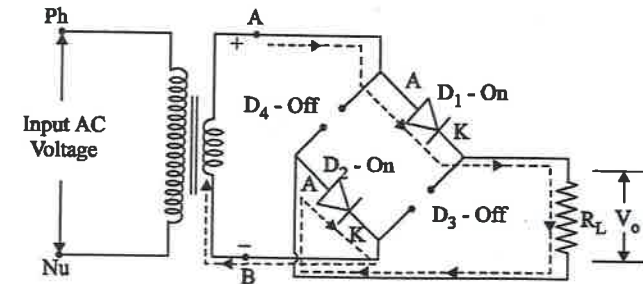

Fig. 3.55
- » Then the current flow is shown in below fig. 3.55.